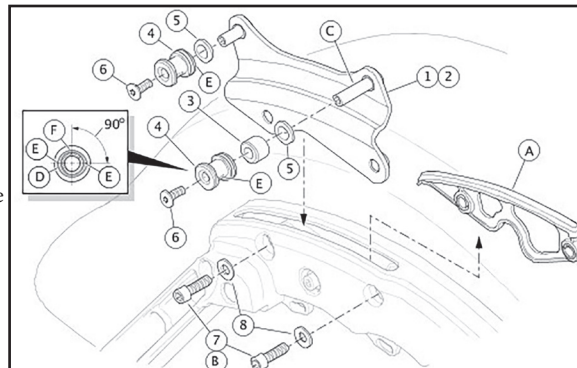

Figure 2.
1. See Figure 2. Record the current notch position for each docking point. Remove the screw (6) from all four docking point pins.
3. If the notches are not in vertical position (F), rotate the docking points slightly, moving the notches toward (F) until a tight fit of the detachable accessory is achieved at each location.
5. If the docking point insert notches are in vertical position (F):
- a. Remove the screw (6) from all four docking point pins.
- b. Rotate each docking point until the second notch reaches position (E).
- d. Check the detachable accessory at each docking point, rotating the notch toward (F) until a tight fit of the detachable accessory is achieved at each location. Tighten the screws to 14.2 N-m (10.5 ft-lbs).